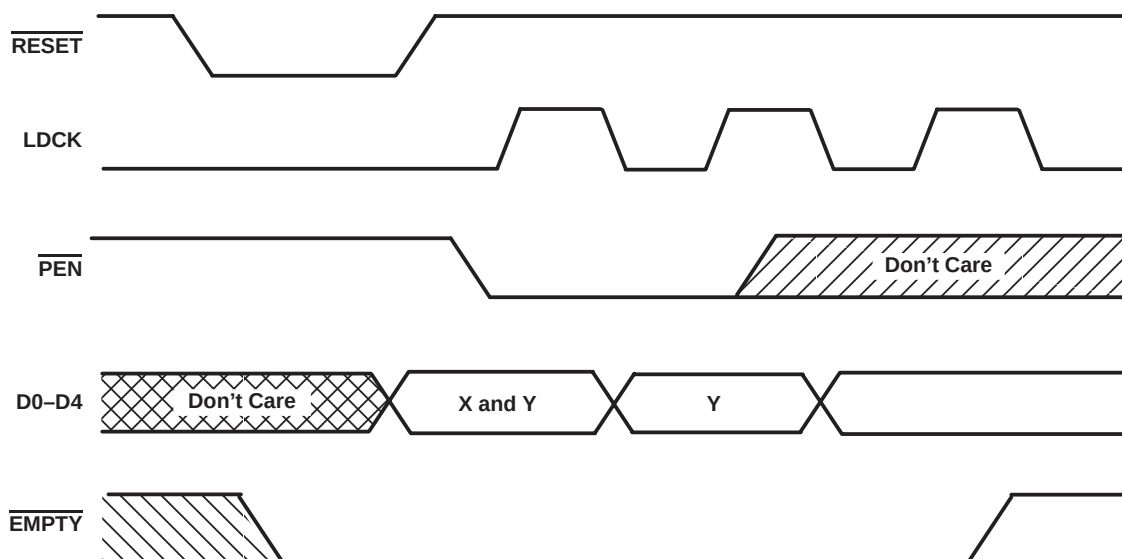

Figure 1. Programming X and Y Separately
To program the offset values, $\overline{\text{PEN}}$ can be brought low after reset only when LDCK is low. On the following low-to-high transition of LDCK, the binary value on D0–D4 is stored as the almost-empty offset value (X) and the almost-full offset value (Y). Holding $\overline{\text{PEN}}$ low for another low-to-high transition of LDCK reprograms Y to the binary value on D0–D4 at the time of the second LDCK low-to-high transition. Writes to the FIFO memory are disabled while the offsets are programmed. A maximum value of 31 can be programmed for either X or Y (see Figure 1). To use the default values of $X = Y = 8$, $\overline{\text{PEN}}$ must be held high.
timing requirements over recommended operating conditions (see Figures 1 through 3)